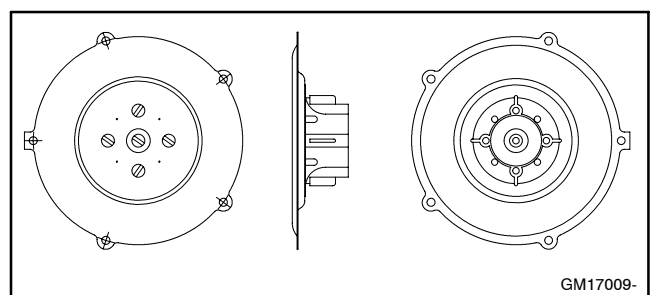

Figure 7-19 Fuel Diaphragm
- b. Remove the gas mixer cover plate and natural gas fuel diaphragm. See Figure 7-19. Save the natural gas fuel diaphragm for possible future conversion back to natural gas.